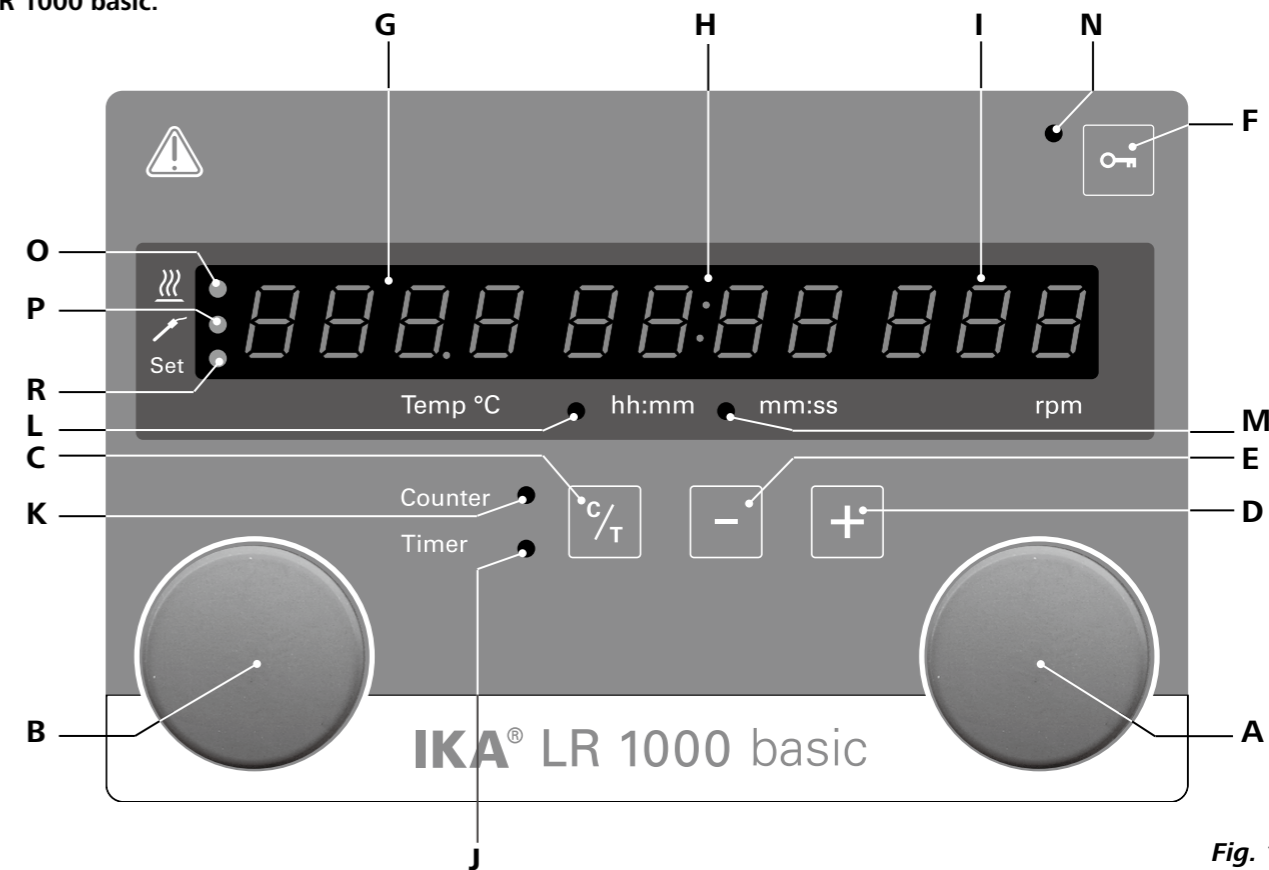

Fig. 11
The heating function can be started or stopped by pressing the left rotating/pressing knob (B). Then, the target temperature value and the actual temperature value will appear on display (G, see Fig. 11) alternately. When the set temperature value is display, LED (R, see Fig. 11) lights up. The heating temperature value can be adjusted by turning the left rotating/pressing knob (B). The value could be changed in standby or operation process.
Turn the rotating/pressing knob (A), the speed value can be adjusted. Press right rotating/pressing knob (A, see Fig. 11) to activate the stirring function.
Turn the rotating/pressing knob (B), the temperature value can be adjusted. Press left rotating/pressing knob (B, see Fig. 11) to activate the heating function.
When the operating time is less than 1 hour, the counter work with minute/second (mm:ss) mode and LED (M, see Fig. 11) lights.
If the operating time exceeds 1 hour, the display switches from minute/second mode to hour/minute (hh:mm) mode. LED (L, see Fig. 11) lights indicate the status.
The Time (+) button (D, see Fig. 11) or Time (-) button (D, see Fig. 11) is used to adjust the heating time. If the timer value is more than 1 hour, the display switch to hour/minute (hh:mm) mode from minute/second (mm:ss) mode. The LED (L) lights.
The "Counter" function could be switch to "Timer" function by pressing the Counter/Timer key (C, see Fig. 11). The timer LED (J, see Fig. 11) indicates the "Timer" function is activated.
Press the Counter/Timer key (C) again, the "Counter" function will be activated and counter LED (K, see Fig. 11) lights.